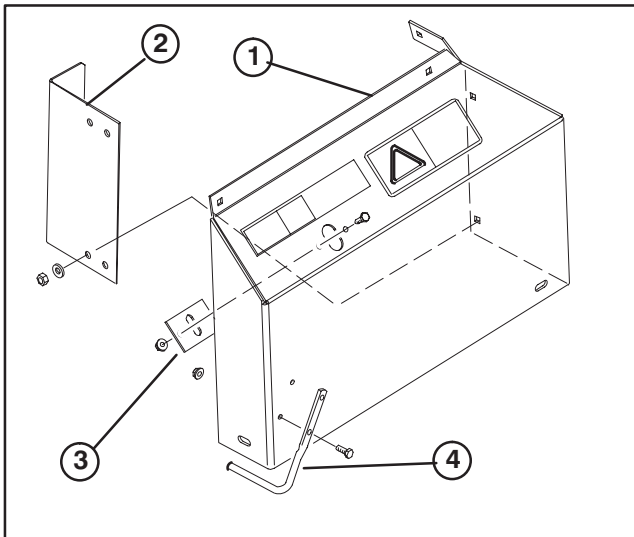

Figure 4
4. Mount the shield to inside front of R.H. hood support with (2) 5/16–18 x 3/4" lg. carriage bolts, flat washers and locknuts, as shown in figure 4.
5. Mount a retainer under slot in top of R.H. and L.H. hood supports with (2) 1/4–20 x 3/4" lg. capscrews and flangehead capscrews (Fig. 4).